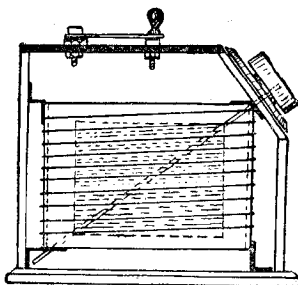

Fig. 2.—Fine-coupling Device.
The most usual type is where the axis on which the coil turns passes through the centre of the windings (Fig. 1). It is necessary with this arrangement to leave a space between the turns for the spindle to pass through, which means a loss of efficiency since the continuity of the coil is broken. This can be overcome by adopting the following method of pivoting the inner coil. The axis is fixed to opposite points on opposite circumferences on the smaller coil, and rotates in bearings at similar points on the larger coil. (This will be clearly understood from the illustration, Fig. 2.)
* These sizes give a maximum degree of coupling which is not too tight to cause self oscillation, an important consideration where broadcast reception is concerned. The illustration, Fig. 2, shows a convenient way of mounting these coils with a switch for varying the primary inductance on top of the containing cabinet.
The second type makes use of a resistance in the anode circuit, as shown in Fig. 2. This resistance should be as large as possible for the H.T. voltage and is usually about 50,000 ohms. The condenser may be of about .0002 mfd. capacity and R₂ about 2 megohms. This type is not quite as efficient as the transformer-coupled type, and is of no use on wavelengths below about 1,000 metres.